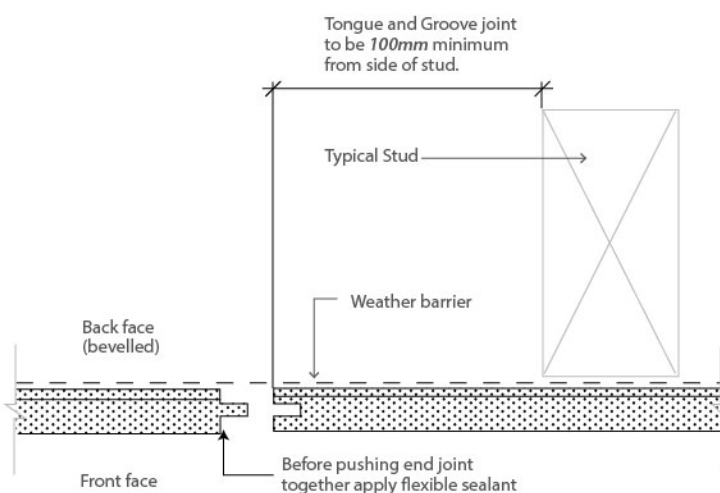
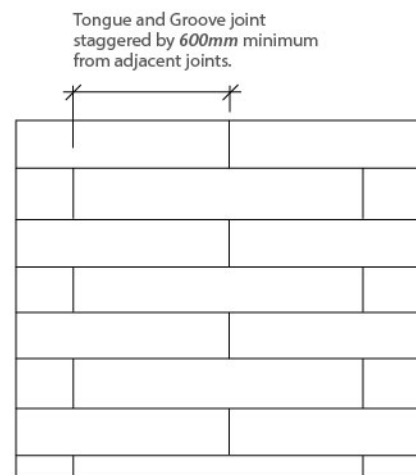

Figure 5 : Tongue and Groove Joint
Figure 6 : Staggered Joints
12. The ends of **PRIMAalpha** WeatherClad are joined off-stud by means of tongue and groove edges. The tongue and groove joints must be at minimum of 100mm from the side of a stud, refer **Figure 5**. Joints must be staggered by a minimum of 600mm from the adjacent joints, refer **Figure 6**.